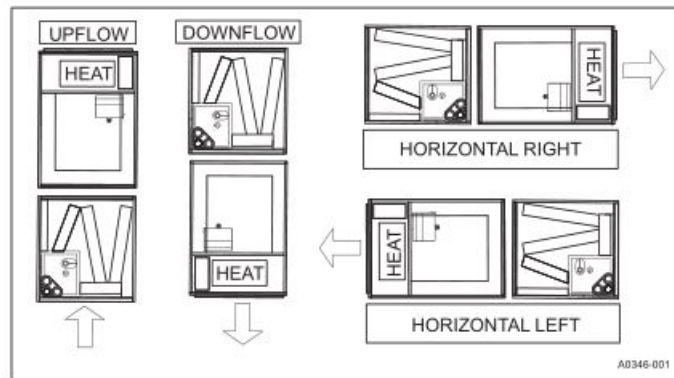

FIGURE 2: Typical Installation
These air handler units are supplied ready to be installed in an upflow, downflow, horizontal right or horizontal left position. Refer to Figure 2. The unit requires no conversion procedures.
3. Position blower casing over appropriate coil opening (depending on configuration). Refer to Figure 2.